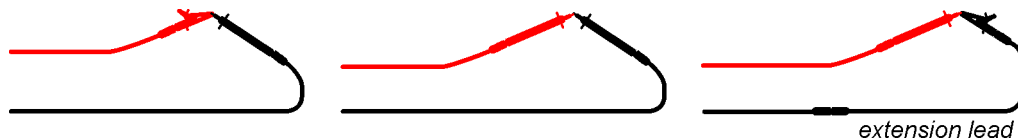

Figure 5.16: Shorted test leads
- ❑ **Connect** test lead to the top of the instrument and short the test leads together (see **Figure 5.16**).